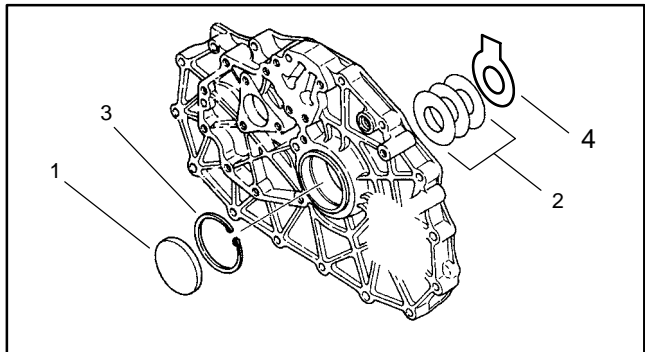

Figure 59
8. Inspect both snap ring (item 3) and shim(s) (items 2 and 4) for damage. Replace all parts if any part is cracked or broken (Fig. 59).